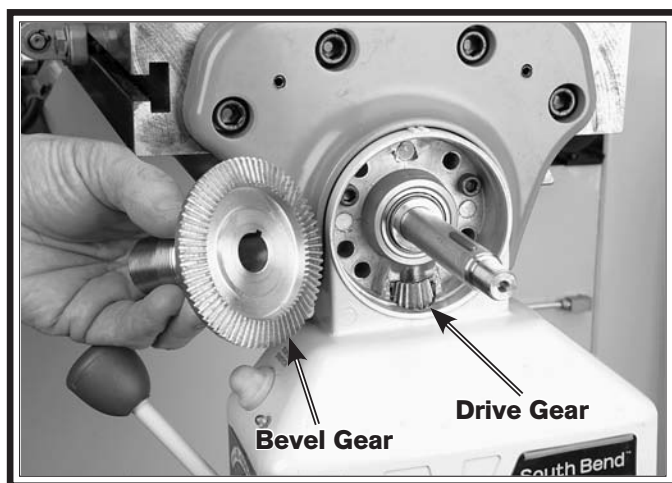

Figure 55. Power feed brass gear and drive gear.
5. Brush a light coat of lubricant on the teeth of the bevel gear and the smaller drive gear (see **Figure 55**).